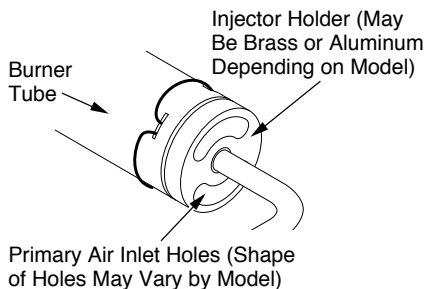

Figure 24 - Injector Holder On Outlet Burner Tube
2. Inspect burner, pilot, and primary air inlet holes on injector holder for dust and dirt (see Figure 24).